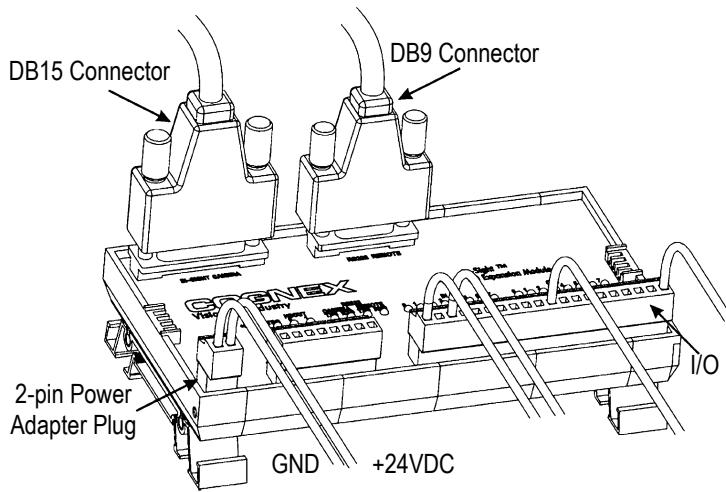

Figure 2-10: Model 1450 I/O Expansion Module Connections
6. Plug wire leads from a 24VDC supply for the +24V power and ground into the 2-pin terminal plug labeled "Power Input" on the Expansion Module. Alternatively, remove the terminal plug and insert the 2-pin terminal plug attached to the In-Sight power adapter into the keyed power adapter port on the Expansion Module (Figure 2-10).